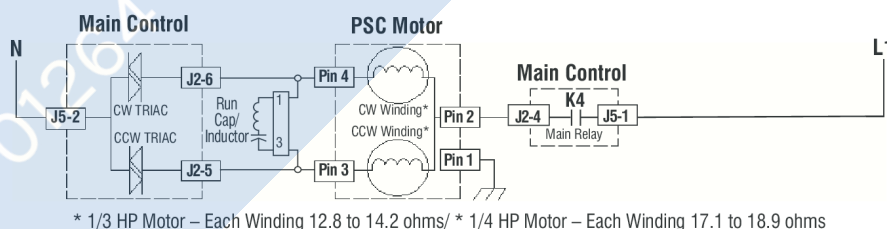

Figure 5 - PSC Motor Strip Circuit (shown in ON position)
**NOTE:** Refer to Figure 5, “PSC Motor Strip Circuit” on page 15 for tests and measurements.